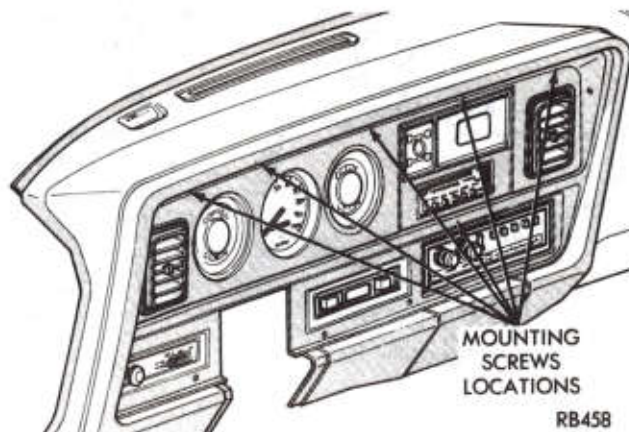

Fig. 2—Mounting Screw Locations
- (1) Remove map lamp (2 screws).
- (2) Remove six (6) screws which attach faceplate to base panel. Make sure the screw below the **Heater-A/C** control is removed (Fig. 2).
- (3) Pull column shift lever in position "1".
- (4) Remove faceplate by pulling the top edge rearward to clear the brow, disengage attaching clips around the bottom of the faceplate, and complete removal of faceplate.
- (5) Disconnect wires to four wheel drive indicator if so equipped.
- (1) Engage attaching clips around bottom of faceplate, connect four wheel drive indicator wiring if so equipped, roll faceplate into position, and install six (6) mounting screws (Fig. 2).
- (2) Install map lamp.